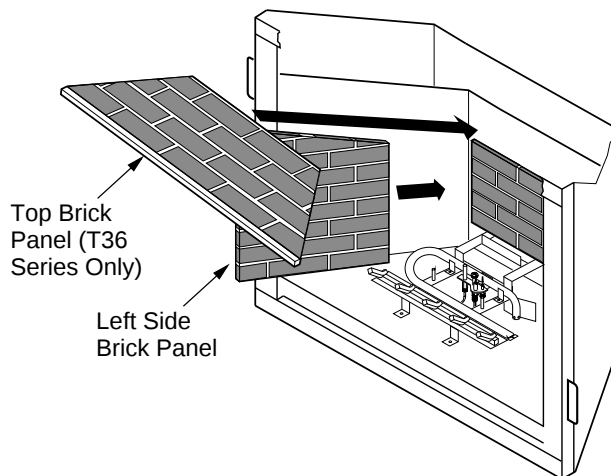

Figure 39 - Installing Left Side and Top Brick Panels
6. Install top brick panel (IVT36 Series only) by resting on the top of the rear panel. Hold the top brick panel in place and install left side brick panel by sliding it between the grate and the side of the firebox, securing top panel (see Figure 39).